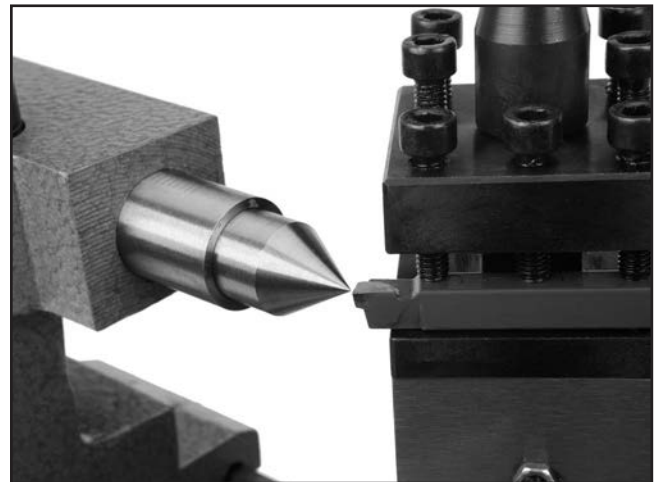

Figure 19. Proper tool post set up.
2. Secure the tool with a minimum of two cap screws with as little overhang as possible. This will help maintain rigidity and provide better results (see **Figure 19**).